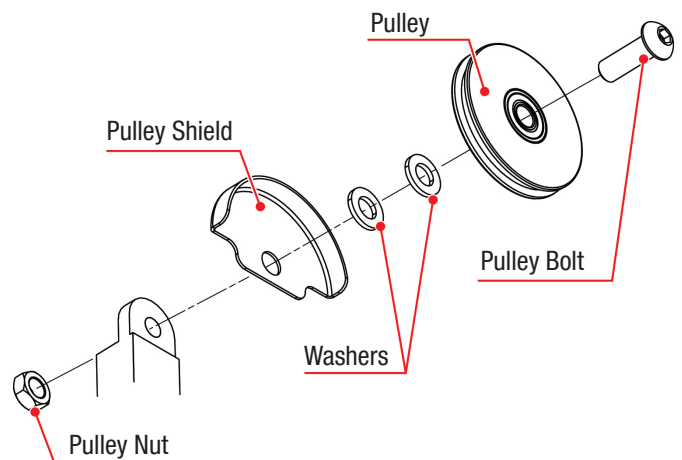

Figure 4-24: Pulley Assembly Parts and Installation Order
3. Lift the pulley up and remove the cable, then remove and discard the pulley, washers, and pulley shield. **IMPORTANT:** Be sure and note the placement of the washers. Re-install washers in the same location (see Figure 4-24).